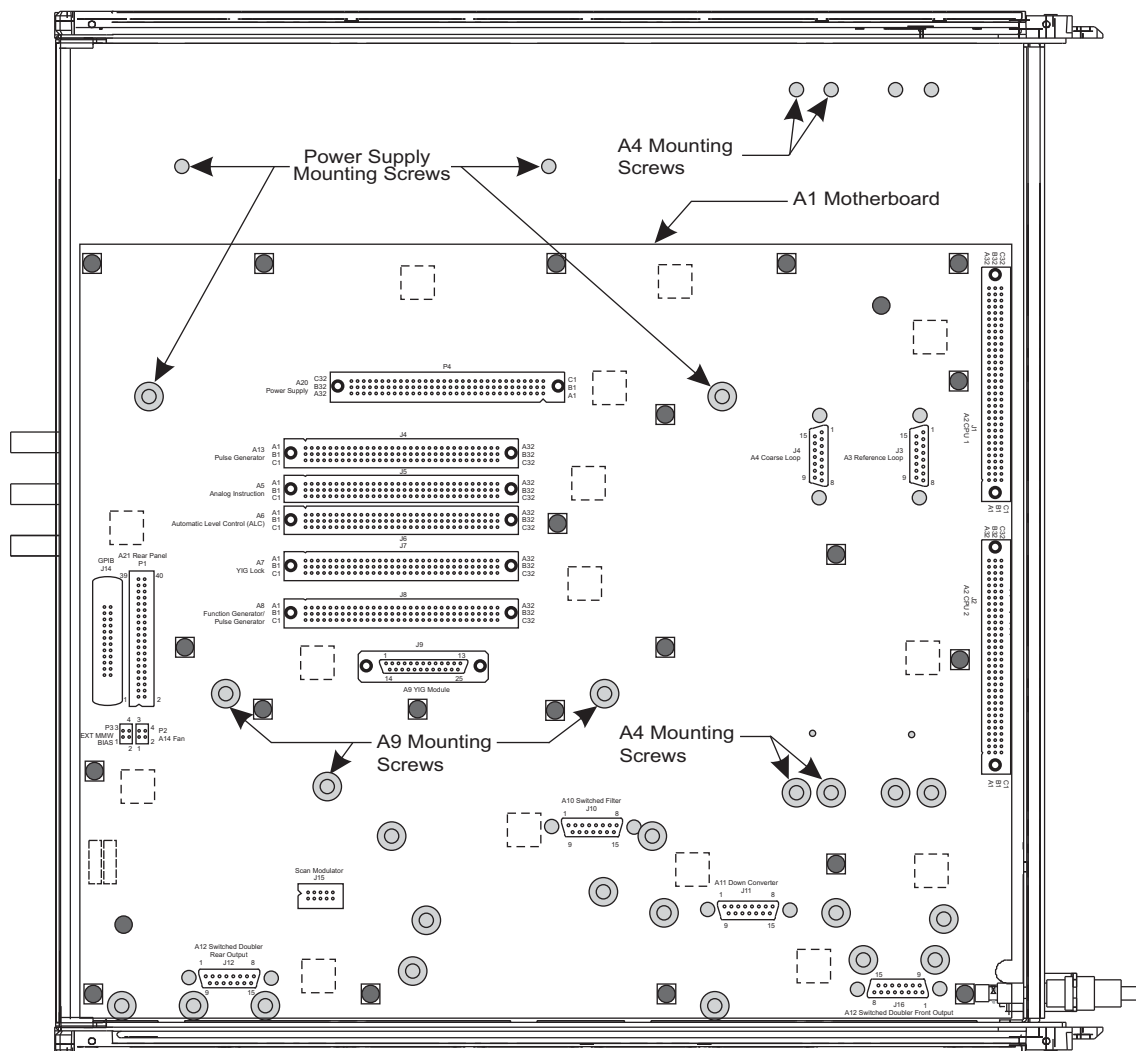

Figure 6-8. Location of Retaining Screws for A4 PCB Assembly and A9 YIG Assembly
2. Turn the chassis upside down and locate the four retaining screws for the A4 board assembly. Refer to Figure 6-8.
2. Turn the chassis upside down and locate the three retaining screws for the A9 YIG assembly. Refer to Figure 6-8 on page 6-13.